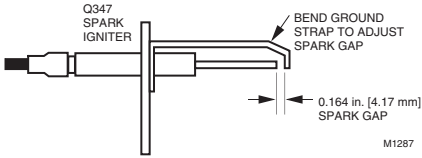

Fig. 1. Adjust Q347 spark gap.
3. The Q347 spark gap is factory-adjusted to 0.164 in. [4.17 mm]. If necessary, adjust spark gap by bending the ground strap. Refer to Fig. 1.
The flame signal is best when about 1 in. [25 mm] of flame rod is immersed in the burner flame. Refer to Fig. 1. A bent flame rod, bent mounting bracket, or cracked ceramic insulator can affect flame signal. Straighten mounting bracket or replace igniter-sensor if necessary.